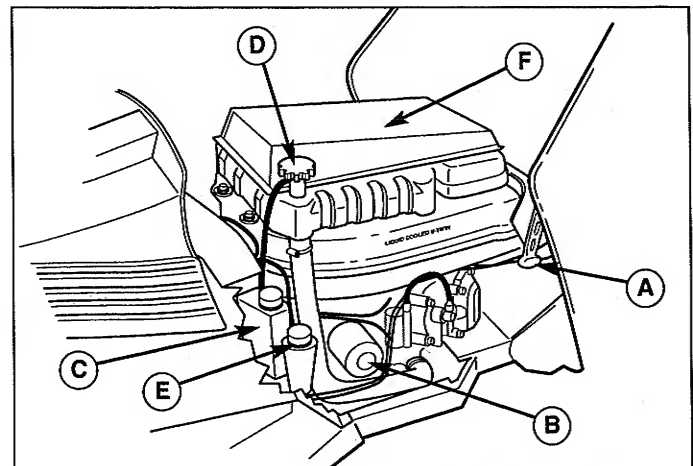

Figure 29. Engine Compartment (View from Right)
1. Check coolant in the overflow reservoir (C, Figure 29). Coolant should be green in color and coolant level should be between the "H" and "L" marks on the tank.
2. If the coolant level is below the "L" mark on the overflow reservoir, then with the engine off and cool, remove the radiator cap (D, Figure 29). Add coolant (50/50 mixture of ethylene glycol and distilled water), slowly fill the tank to the bottom of the radiator cap filler neck.